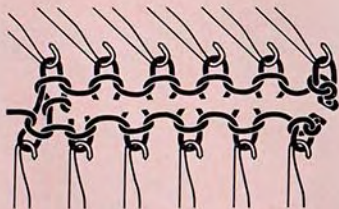

Fig. 86
b) Open at right, fig. 86, lock at left